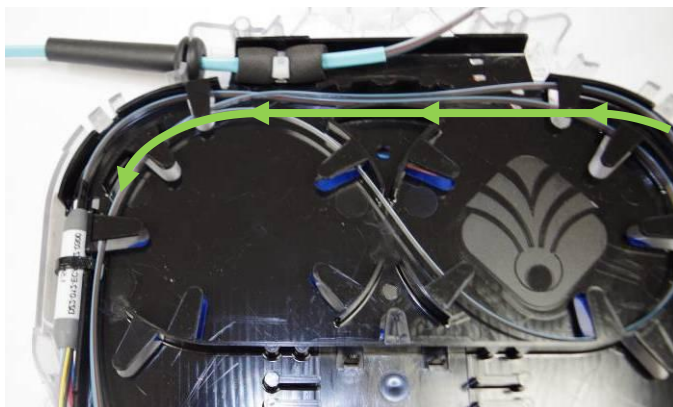

Figure 5
- Step 5:** Route the ribbon from transition **B** on the right (viewed from the front of the cassette) to the right slack storage loop (**Figure 5**).